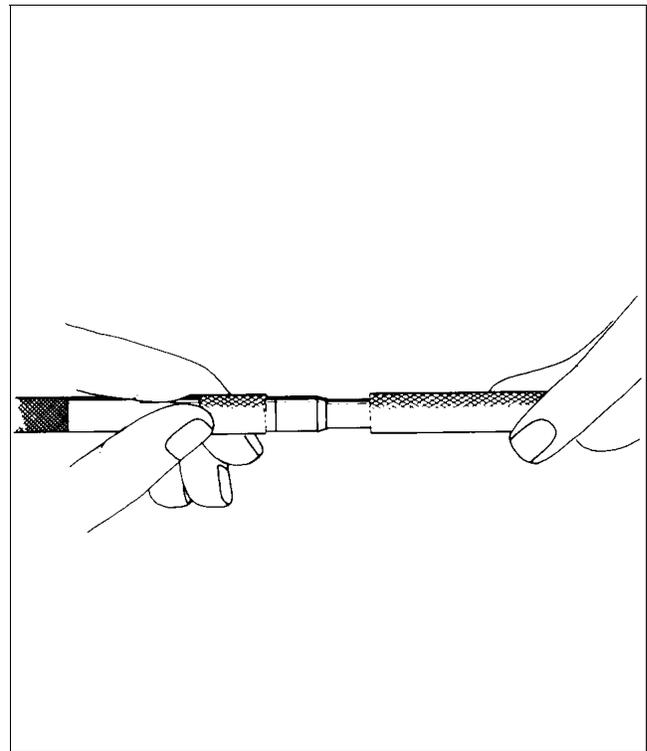

Figure 74-17. Inserting Stripping Tool
4. Make sure stripping tool is inserted past cutting mark, and cut shielding with a sharp knife using a rolling motion. Remove shielding and stripping tool. Do not cut silicone insulation. (Refer to Figure 74-17.)